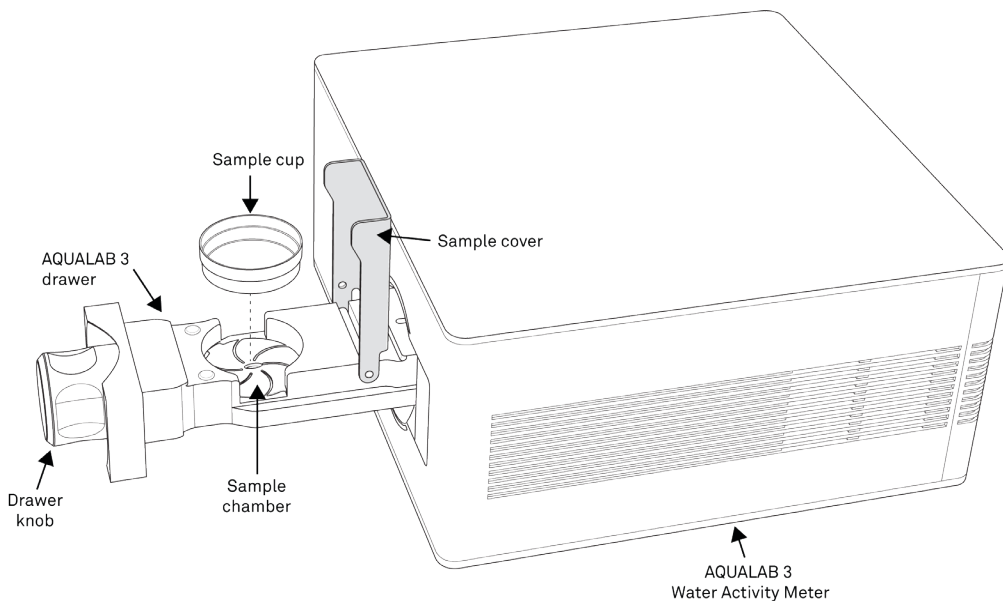

**Figure 52 Sample Cup**
- b. Fill the sample cup (Figure 52) enough to cover the bottom but no more than half full. Clean sample cup bottom, sides, and rim thoroughly with KIMWIPES® strips.